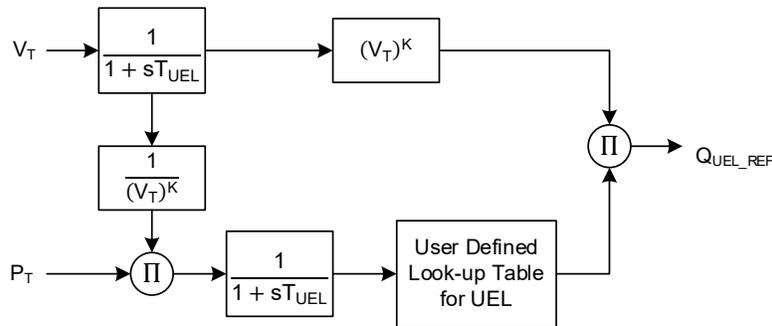
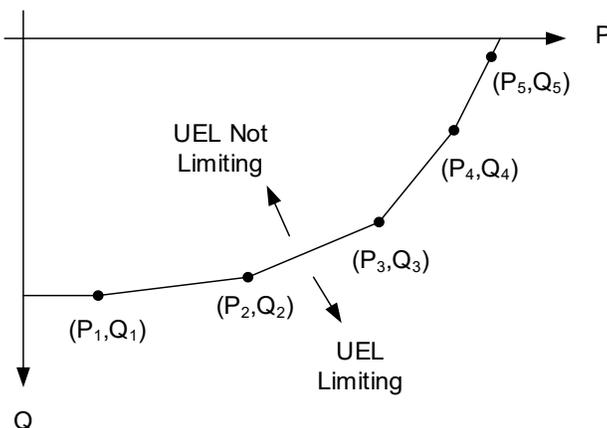

Figure 11-14. Adjustment of UEL Curve Based on Generator Voltage and Real Power
Figure 11-15. User-Defined UEL Curve Characteristic with Five Points
- The levels entered for the user-defined curve are defined for operation at the rated generator voltage. The user-defined UEL curve is automatically adjusted based on generator operating voltage and real power by using the UEL voltage dependency real-power exponent as shown in Figure 11-14. Figure 11-15 shows the customized UEL operating characteristic for a UEL in which the limit is comprised of multiple straight-line segments, showing up to six segments.